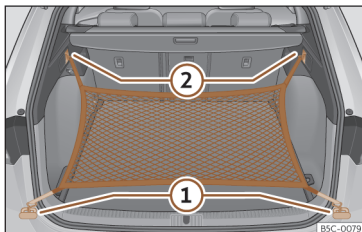

Fig. 129 In the luggage compartment: rings ① and hooks ② for attaching the net bag.
- Secure the short net hooks to the fastening rings»» Fig. 129 ① »» ⚠. The bag zip should be facing upwards.
- Secure the straps in the bag hooks ②.